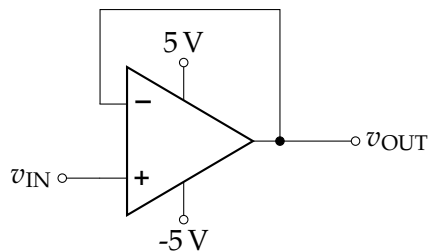

Figure 7.6: Op amp buffer circuit.
3. Build the circuit in figure 7.6 using the op amp.
For this task, continue using the buffer circuit from figure 7.6.